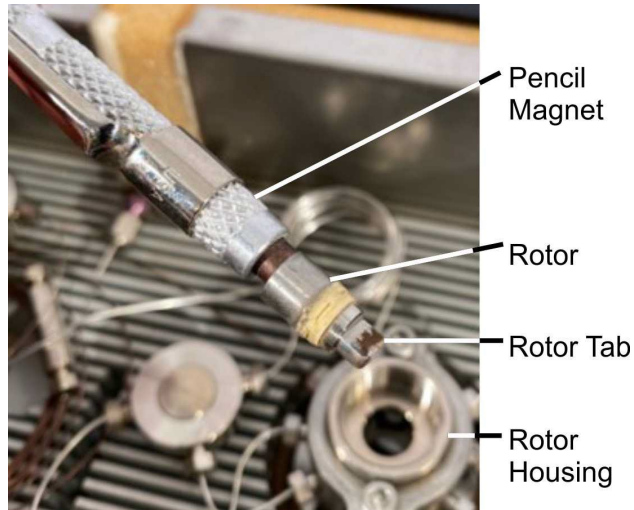

**Figure 5-8. Rotor Housing Disassembly**
4. Referring to Figure 5-8 turn the knurled preload nut counter-clockwise to remove it from the rotor housing atop the injector valve body. This exposes the top of the rotor.